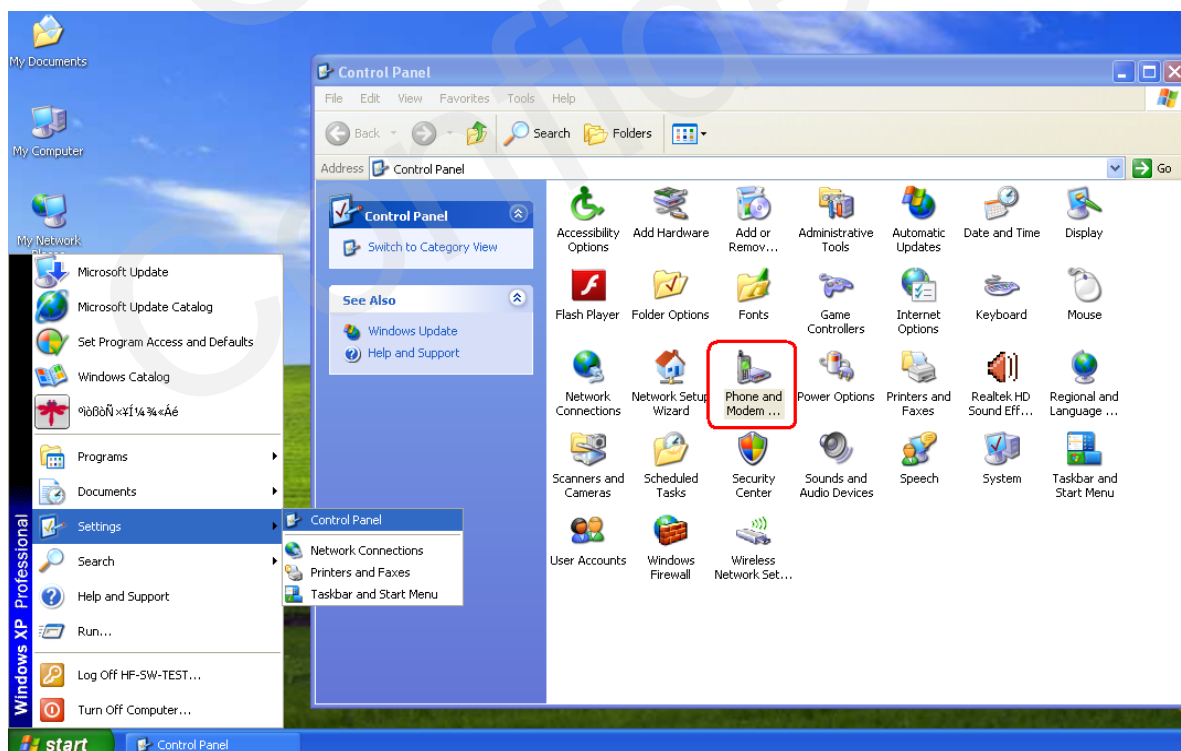

Figure 4: Phone and Modem Options
1. Click “Start”->“Settings”->“Control Panel”->“Phone and Modem Options”. Please refer to Figure 4.